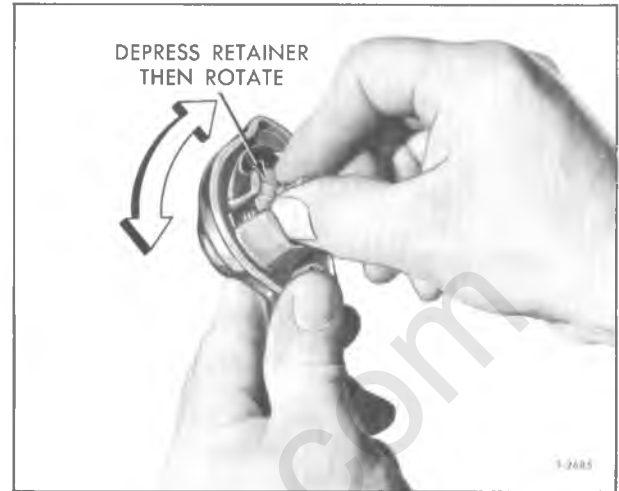
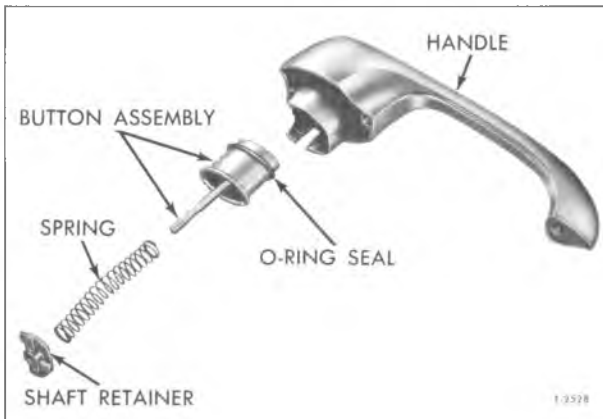

Figure 12—Disengaging Handle Spring Retainer
Figure 13—Door Handle Components
3. Remove the button shaft retainer by first depressing, then rotating retainer as shown in figure 12. Remove shaft spring and button assembly with O-ring seal from handle (fig. 13).
2. Locate spring over button shaft, then install spring retainer (fig. 12).